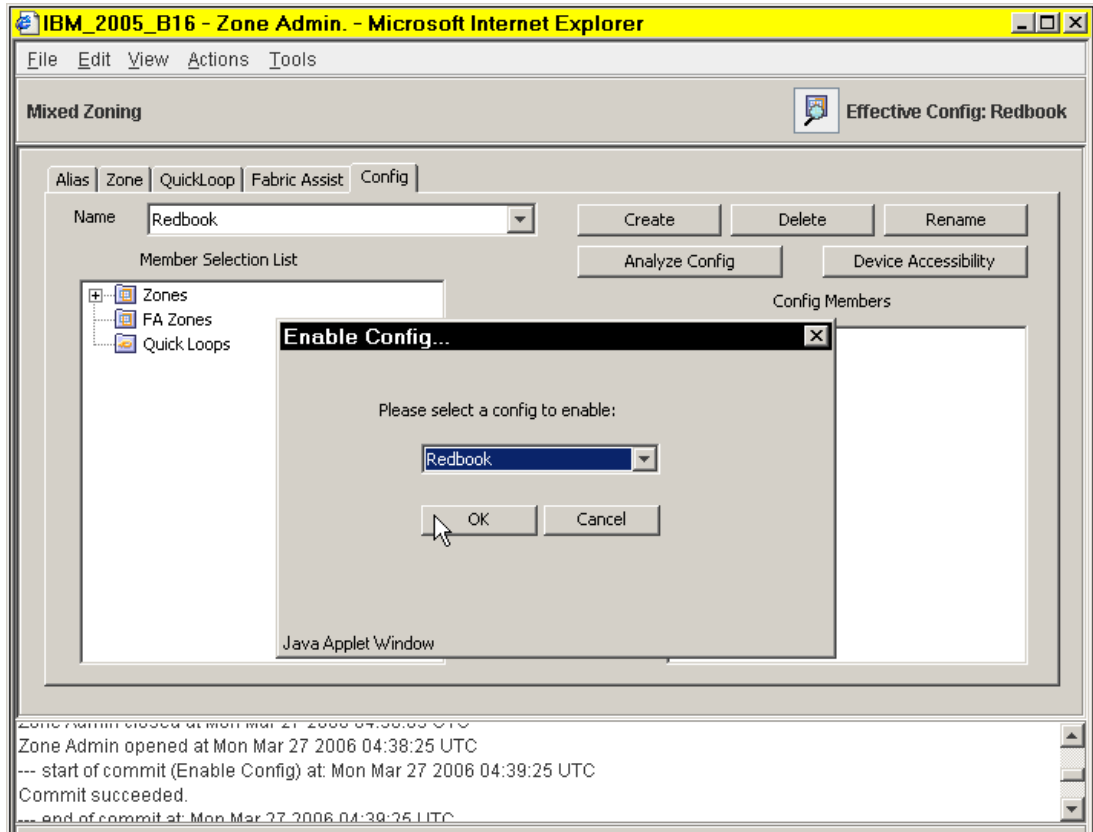

Figure 22 Config Enablement
16. Go to the Actions menu, and select Enable Config.... Select the config you just created, and press **OK**. See Figure 22 on page 22.